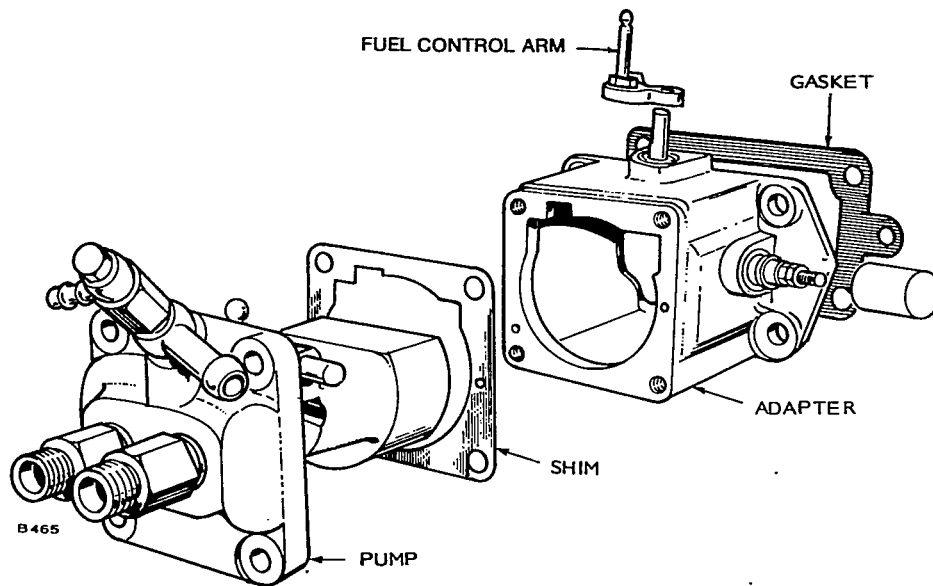

FIGURE 21h. PUMP AND ADAPTER ASSEMBLY
2. Using proper shim thickness (Figure 21h), install pump to adapter with four socket head capscrews and lockwashers. Torque to 20 to 24 ft.-lb. (27 to 33 Nm).
5. Reinstall fuel control arm on yoke and shaft assembly, Figure 21h. Tighten socket head screw, but do not over tighten.